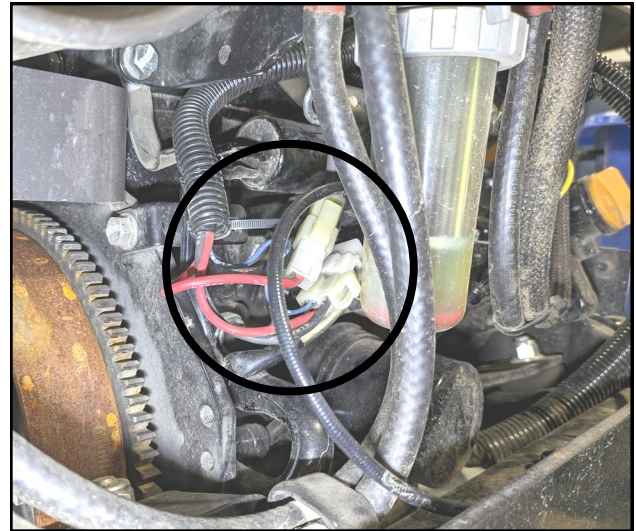

Fig. 1.32 (Disconnect White Connectors)
**1.32** Disconnect the white wire connectors shown in Figure 1.32, and pull the harness out from behind the fuel hardlines.